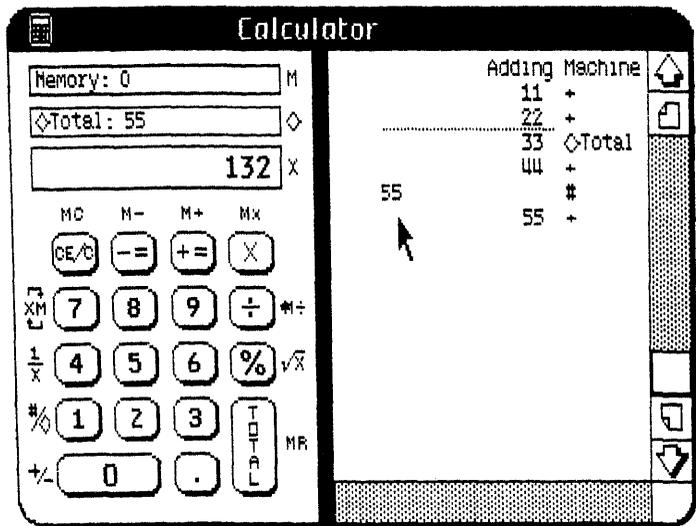

Figure 8. Adding Machine — Example 2
- ▶ Click +=; see Figure 8 now.
In Figure 8, the number 55 has been shown and then entered into the calculation. A number that is shown without being entered into a calculation is labeled #.